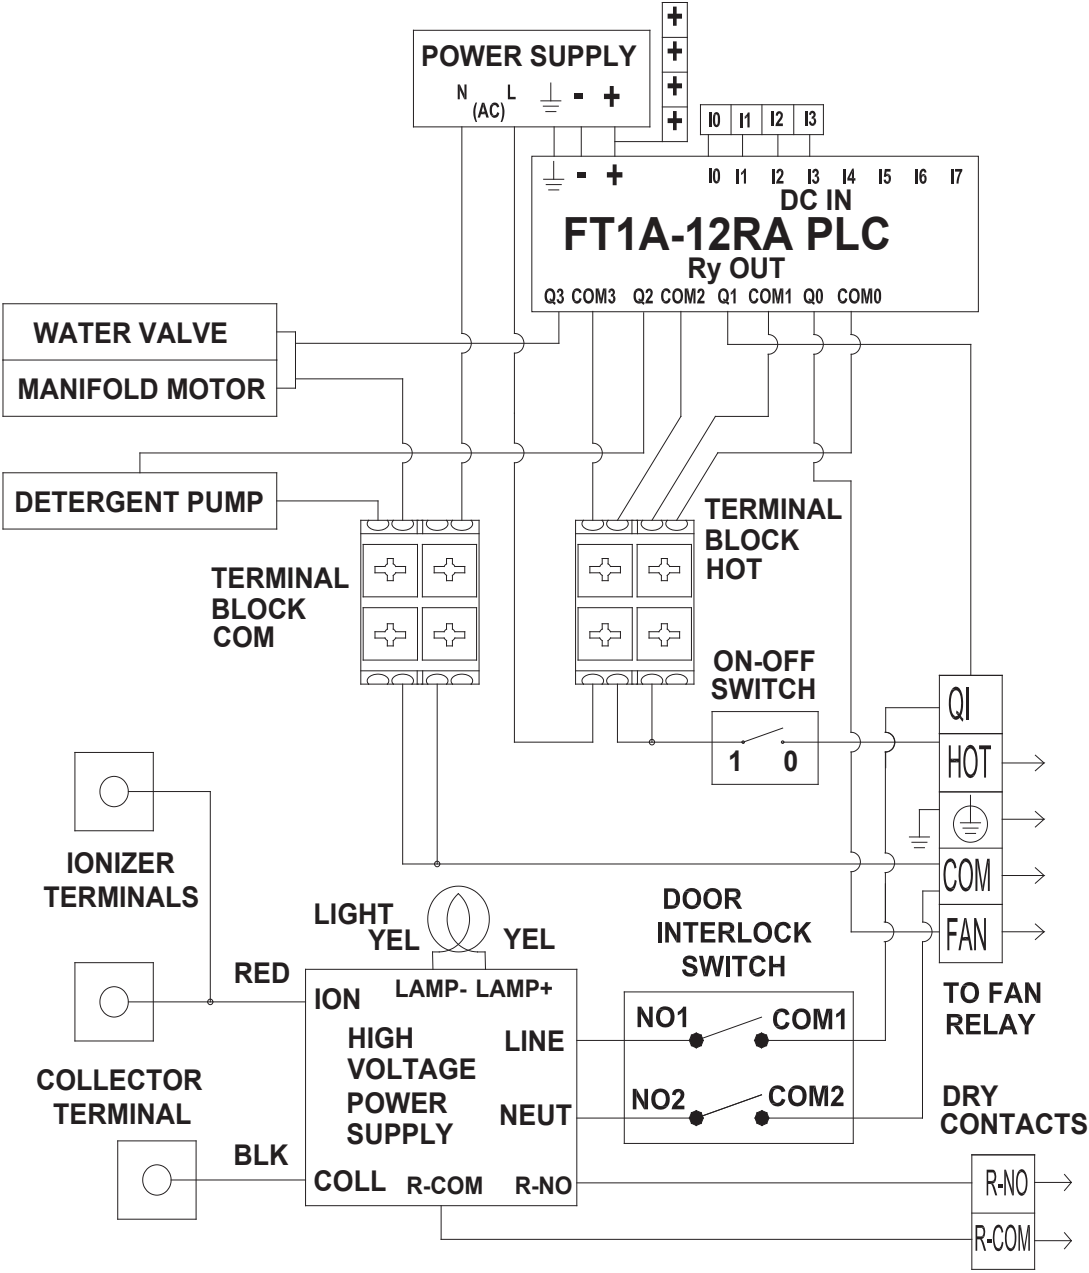

Figure 8 – Internal Wiring Schematic for AUTOCLEAN® 2000 and 4000
1. Install the water strainer (supplied) in the hot water line ahead of the water valve. See Figure 8. The strainer protects the valves and washing jets from clogging.
Check all electrical connections to make certain they are correct and complete. Refer to the hookup diagrams (Figures 8 through 9).
Make sure all wiring is connected properly reference figures 8 and 9.**